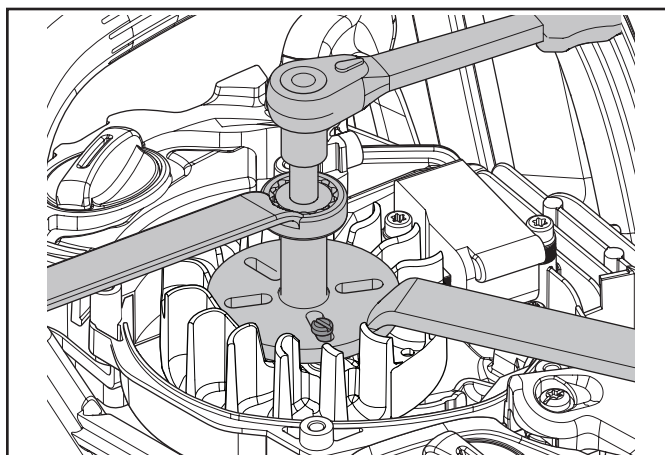

Fig. 4
8. Mount the screw press in the center and screw it down far enough to ensure it is secure in the plate. Lock the outer socket with a wrench and screw in the centre screw until the flywheel releases. See Figure 4.